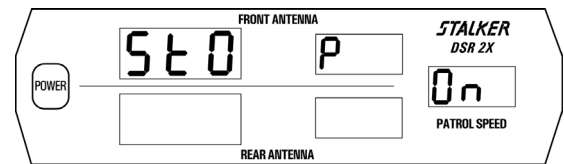
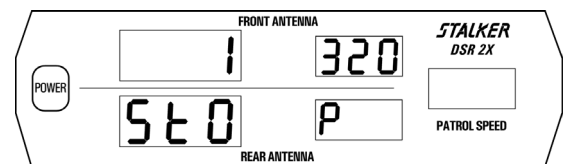

Fig. 31
Fig. 32
1. Enter Stopwatch Mode using the ergonomic remote control by pressing the **MENU** key six times. Use the **↑** and **↓** keys to set **5t0 P** to **0n**. Fig. 31 shows the Stopwatch Mode in its ON setting. Press any of the four **ZONE** keys to exit Setup Mode and enter Stopwatch Mode (shown in Fig 32). The 1320 feet display will normally be a different number – depending upon its previous setting.